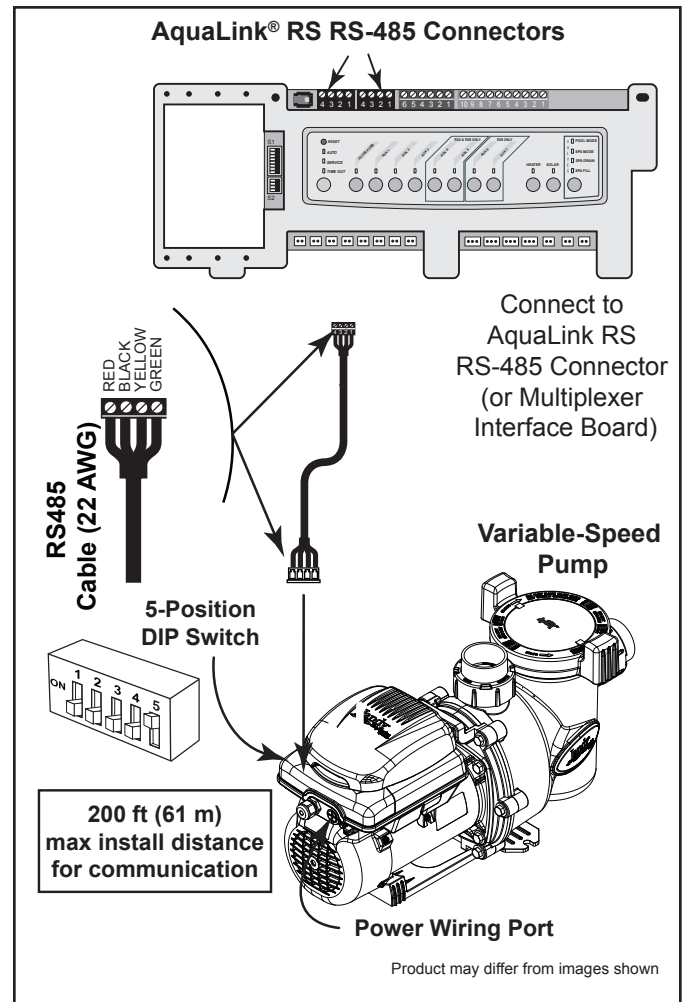

Figure 7. Wiring AquaLink RS Controller or AquaLink PDA
3. Slide DIP switches 1 and 2 down to the OFF position. Slide DIP switch 5 up to the ON position. See Figure 7.
- b. Connect the new RS-485 cable from the AquaLink through the available compression fitting and route the 4-conductor cable through the motor drive threaded port closest to the connector. Figure 7.
6. Connect the RS-485 connector on the AquaLink® RS (or multiplexer interface board), matching wire colors with connector positions as follows: 1-red, 2-black, 3-yellow, and 4-green. See Figure 7.
7. Secure the pocket cover and gasket with six (6) screws to the variable-speed controller base on the motor.
8. Remove the one (1) screw and access cover to complete electrical connections to the motor.
10. Prepare the cable and attach another 4-pin connector, ensuring the wire colors match Figure 7.
13. Verify the DIP switch settings match Figure 7.